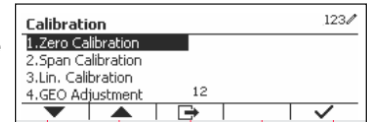

Figure 4
2. When Zero Calibration is highlighted, press the softkey corresponding to the ✓ icon to initiate. (See Figure 4)